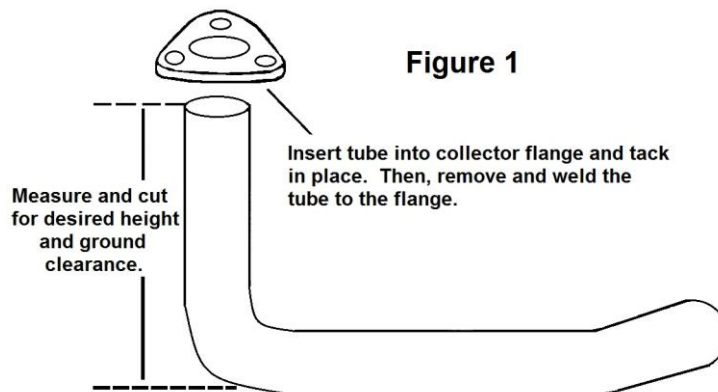

Figure 1
2. Measure and cut the hugger tube for the desired height and ground clearance. See **Figure 1**.